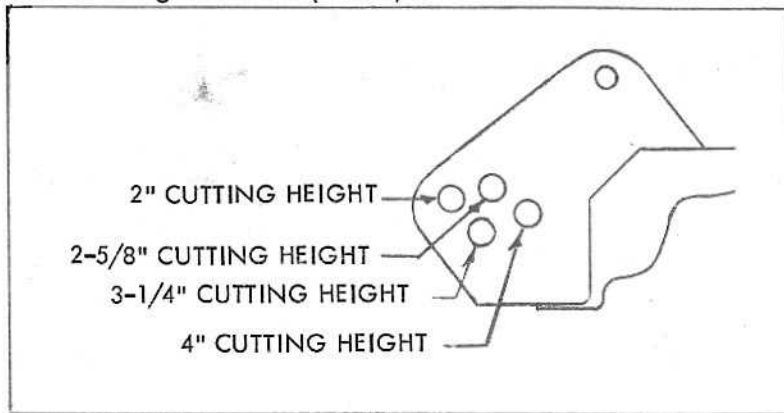

Figure 1
To change cutting height, raise mower to the transport position. Remove safety pin and clevis pin from wheel adjustment brackets. Move the wheel and axle assembly to the desired cutting height. Reinstall pins (See figure 1). Raise or lower front end of pull bars (5) in mounting brackets (3 & 4).